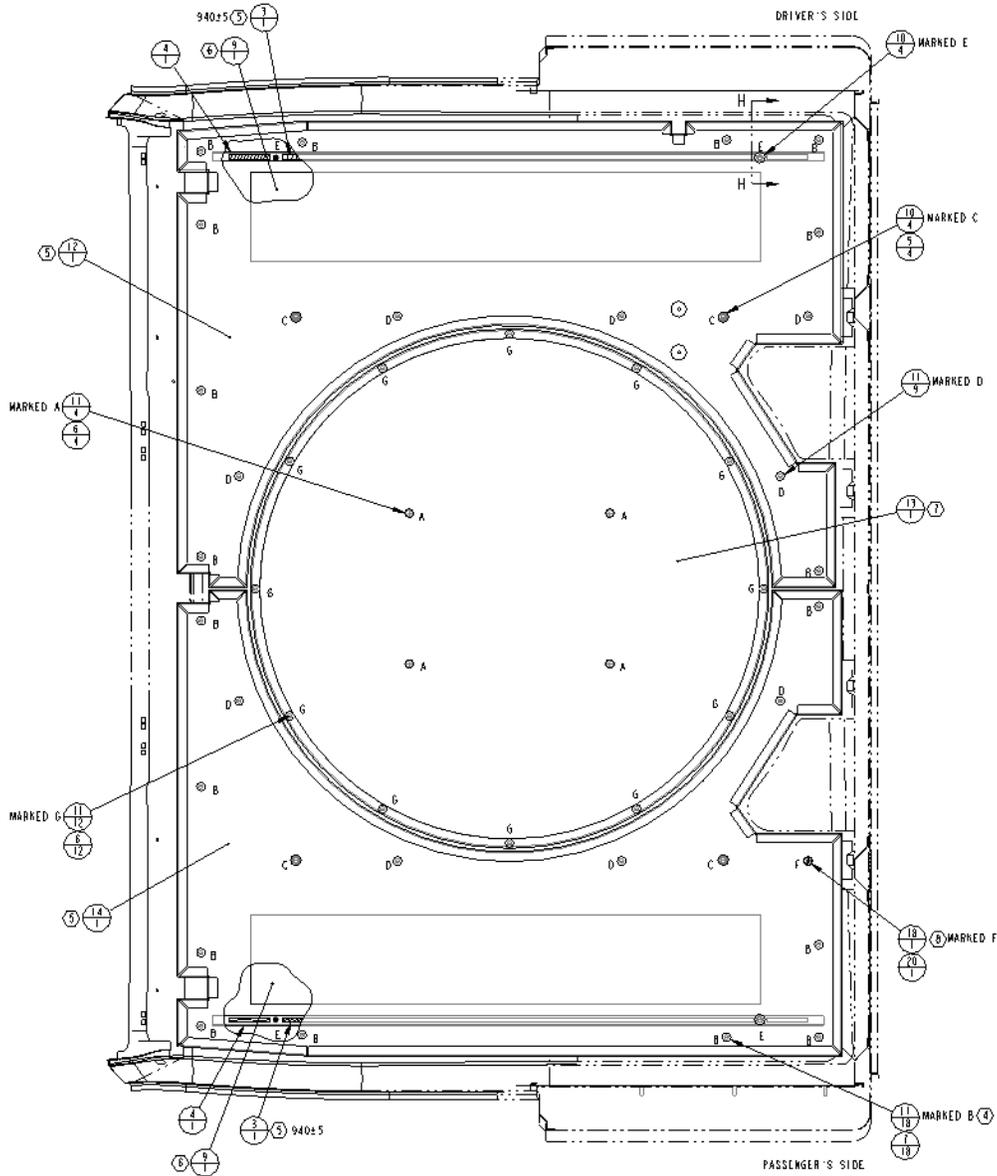

FIGURE 53: EXAMPLE OF SPLIT BALLOONS ON DRAWING
*Example of Split Balloon callouts for the table shown in **Figure 53** below:*